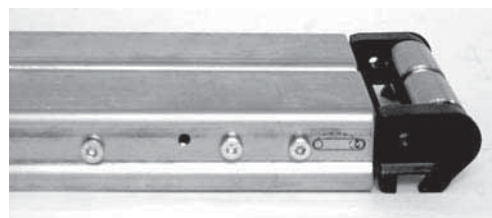

Figure 5
2. Compress tension end (Figure 5). Refer to steps 3 and 4 under the “Belt Removal for Conveyor Without Gearmotor Mounting Package or Stands” on page 12.